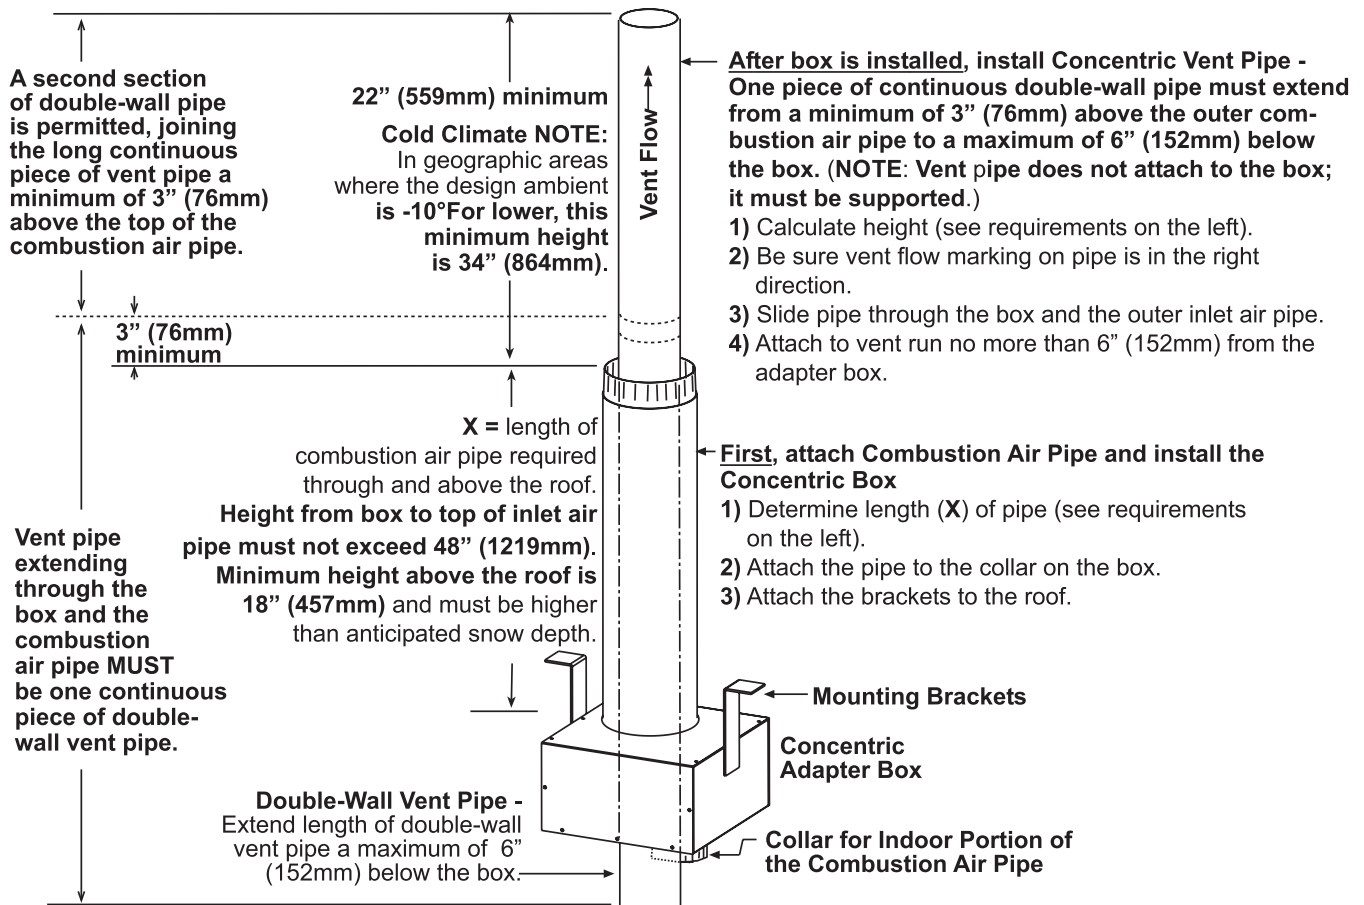

Figure 15. Combustion Air Pipe Installation
5. Connect outside section of combustion air pipe to concentric adapter box (see **Figure 15**):
- a. Determine length of combustion air pipe so that dimension X in **Figure 15** is equal to bracket length plus roof thickness and plus anticipated snow depth. Ensure that length of combustion air pipe does not exceed 48 inches (1,219 mm) or does not extend **less than** 18 inches (457 mm) above roof.
6. Secure concentric adapter box to underside of roof (see **Figure 15**):
- a. Refer to Figure 15 to determine lengths of each pipe segment and to calculate total length required. Determine length by adding requirements:
- (1) Starting at bottom, vent pipe can extend maximum of 6 inches (152 mm) below box
- (2) Plus 6 inches (152 mm) through box
- (3) Plus length of brackets above box
- (4) Plus width of roof
- (5) Plus height of outside combustion air pipe above roof
- (6) Plus minimum of 3 inches (76 mm) beyond top of inlet air pipe
- (7) Total is minimum length of vent pipe section—if actual piece of vent pipe is longer, extend it farther above combustion air pipe—do not extend it more than 6 inches (152 mm) below box